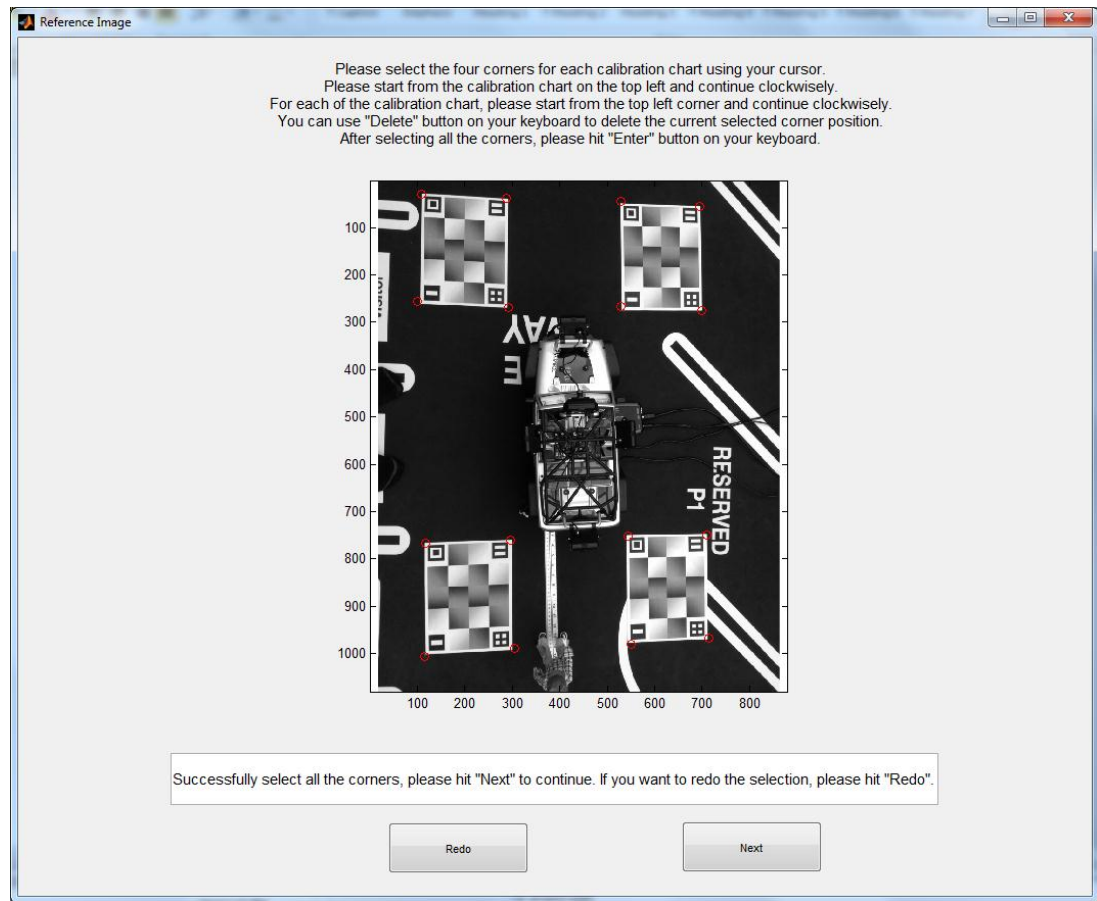

Figure 15 – Select corner positions in reference image.
4. Select the corner positions in reference image as shown in Figure 15. Please follow the instructions on the GUI, you will get a message indicating whether you have succeeded to select the points as shown before.